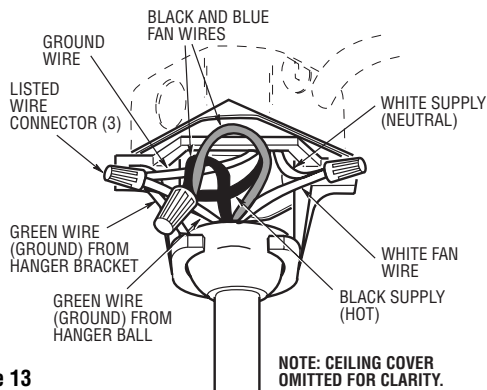

Figure 13
2. Securely connect the fan motor white wire to the supply white (neutral) wire using wire connector supplied (Figure 13). Securely connect the fan motor black wire and blue wire to the supply black (hot) wire using wire connector supplied (Figure 13). After connections have been made, turn leads upward and carefully push leads into the outlet box, with the green equipment-grounding conductor and white grounded neutral conductor on one side of the outlet box and the black and blue ungrounded conductors on the other side of the outlet box.